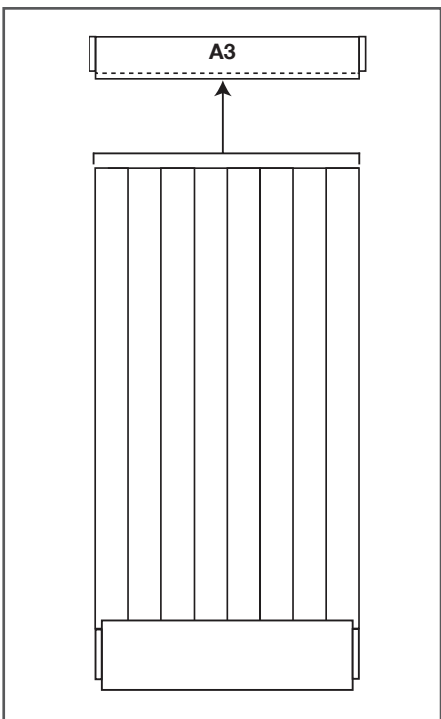

Figure 3
3. Place the Top Rail (A3) above the assembled slats. Slide downward to cover the upper edge of the slat assembly. Tap the Top Rail into place with a rubber mallet (Figure 3).